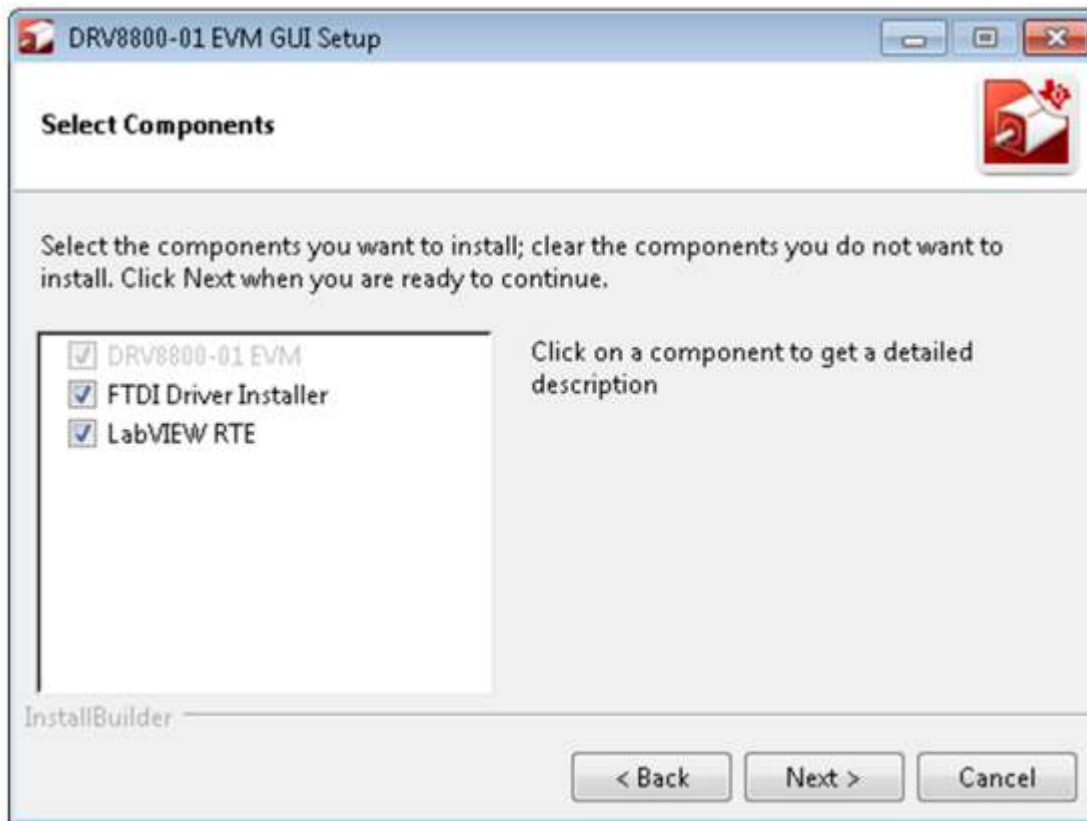

Figure 7. Component Selection
6. A screen as shown in Figure 7 appears. This screen is to select the components to install. Select the Components to Install and Click **Next** to continue installation. The LabVIEW RTE component checks out if the LabVIEW RTE 2014 is already installed on the PC.